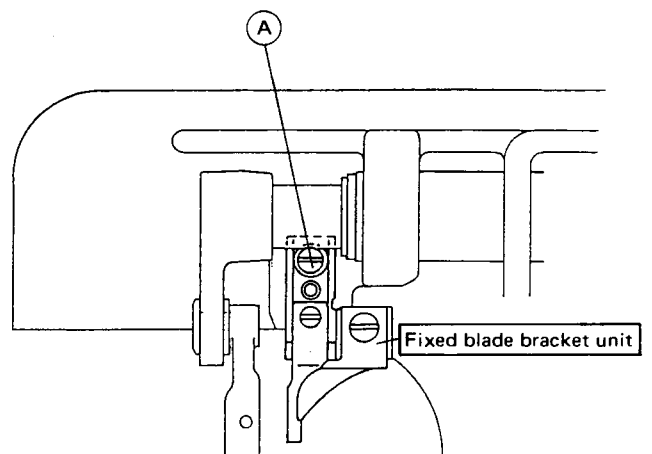

Fig. 4
- (1) As shown in Fig. 4, install the fixed blade bracket unit with the hook positioner dismounted, and then fix with the screws (A).